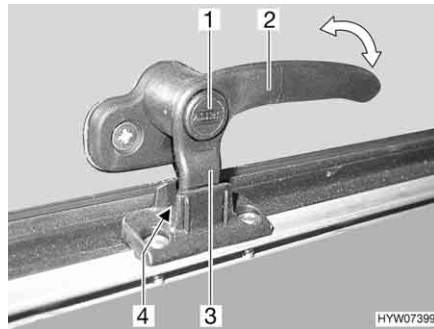
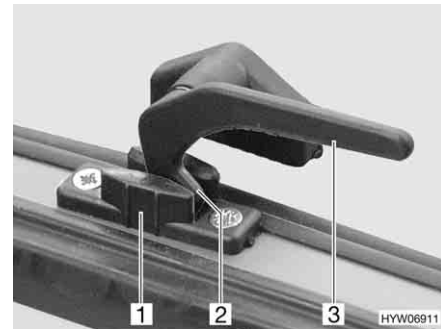

Fig. 57 Catch lever with safety knob in "continuous ventilation" position
Fig. 58 Catch lever in "continuous ventilation" position
- "Continuous ventilation" (Fig. 57 and Fig. 58)
- Press and hold the security button (Fig. 57,1), if present.
- Turn the catch lever (Fig. 57,2 or Fig. 58,3) a quarter turn towards the centre of the window.
- Return the catch lever to its initial position. Move the locking catch (Fig. 57,3 or Fig. 58,2) on the catch lever into the recess of the window catch (Fig. 57,4 or Fig. 58,1).